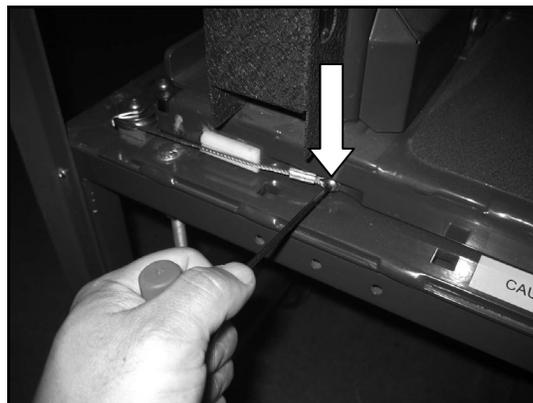

FIGURE 3-10
- 6. Refer to **Figure 3-10**. Remove hex screw to detach anchored end of cable. Retain delrin cable guide for re-installation.
14. Install existing hex screw to anchor the cable end onto the baseplate as shown in **Figure 3-10**, Section E.